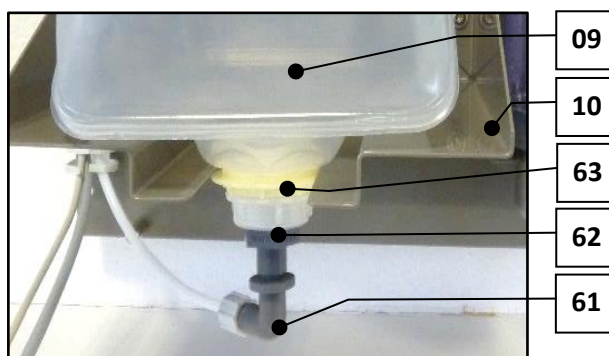

Fig. 37: Politainer connection with connecting plug
- 7) Turn the closed politainer 180° upside down and push it onto the *console* (Fig. 37, No. 10) so that the *yellow collar ring* (Fig. 37, No. 63) is located below the console. The device is now ready for use!